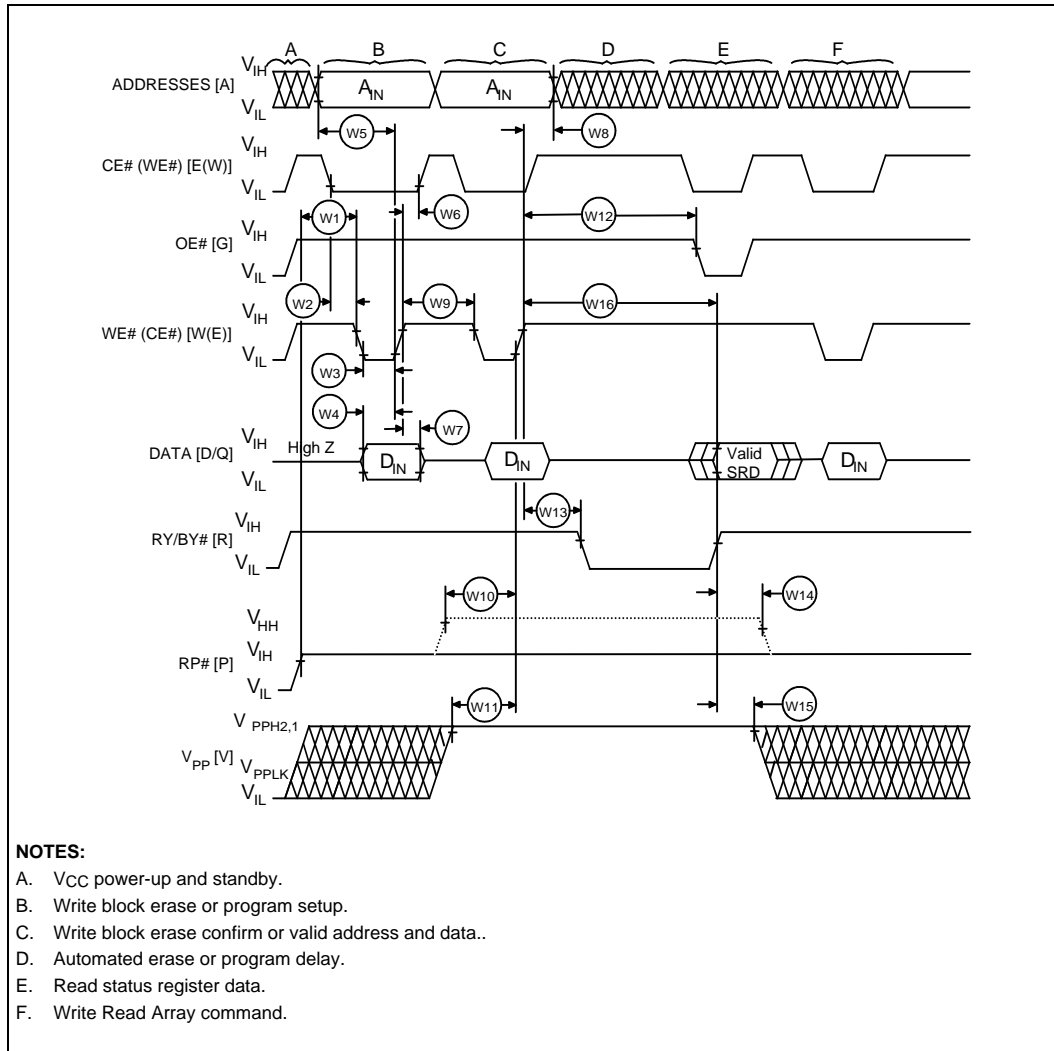

Figure 19. AC Waveform for Write Operations
5. Reference the *AC Waveform for Write Operations*, Figure 19.